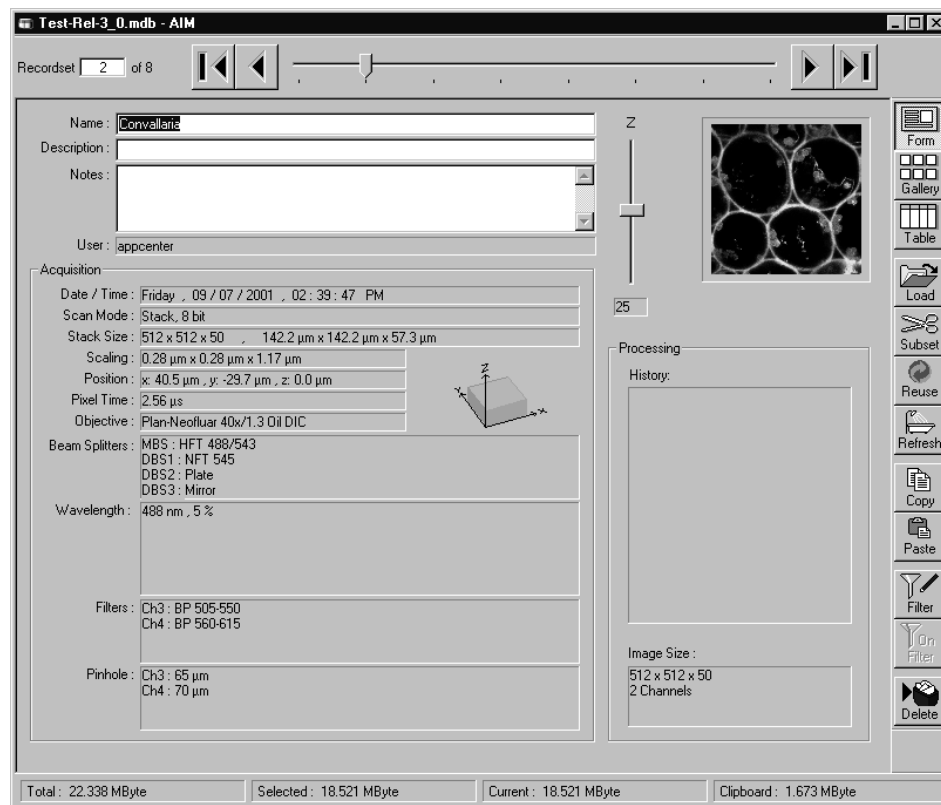

Fig. 5-16 Image Database window (Form display mode)
- Click on the  button in the title bar of the **Database** window (see Fig. 5-16) to close this window and make no selection.